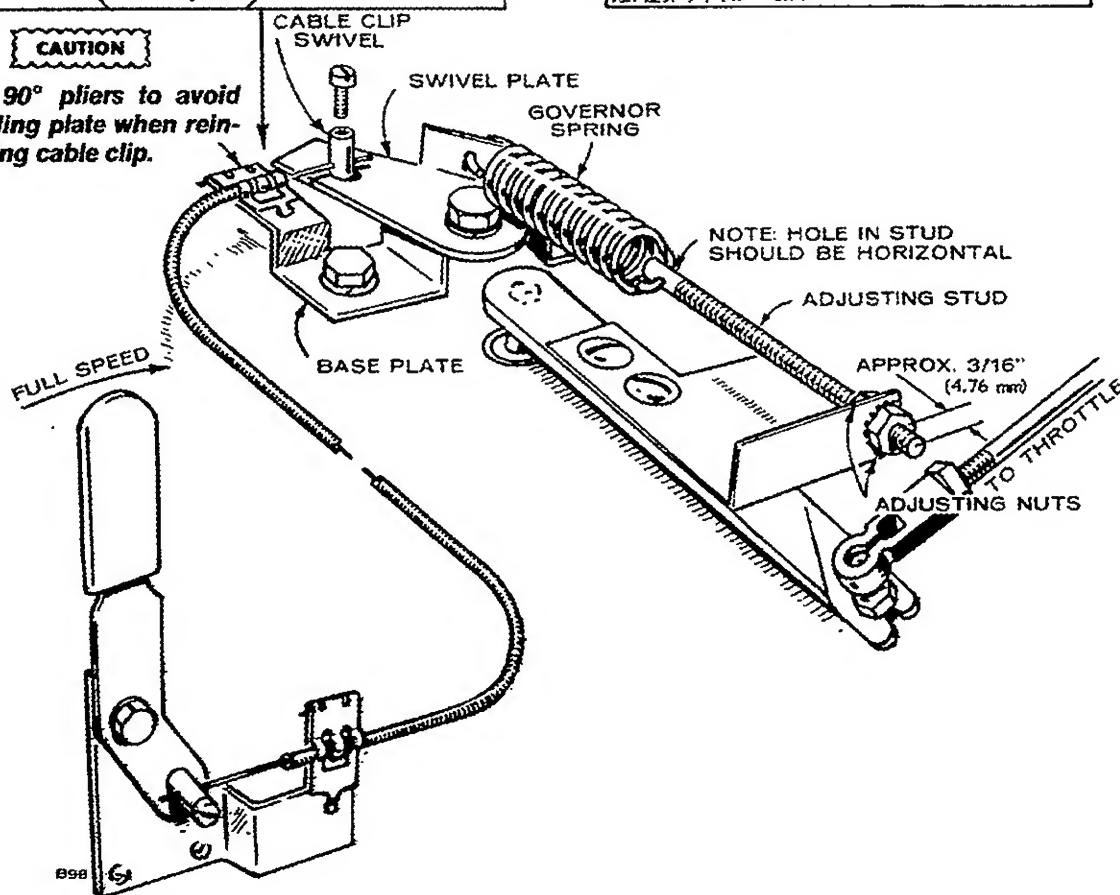

FIGURE 13c. CCKB TRACTOR GOVERNOR
Low Speed Adjustment: A tachometer is required to accurately set the governor speed when the throttle is held closed (Figure 13c).
1. Use a screwdriver to adjust the low speed stop screw so the engine runs at 1200 (± 100) rpm when the throttle is held closed (Figure 13c).